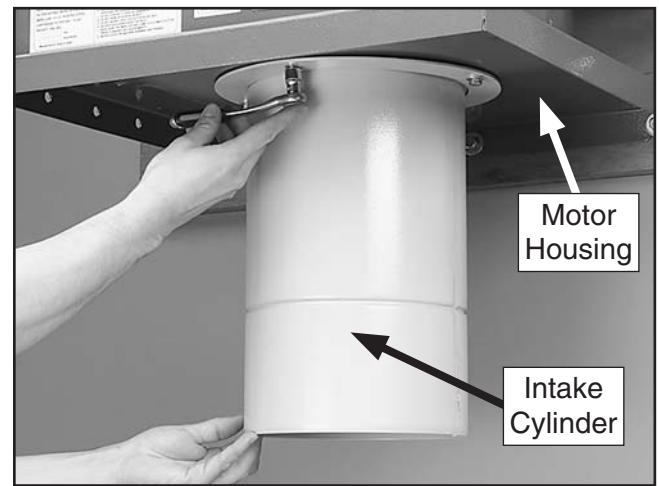

Figure 12. Attaching intake cylinder to the bottom of motor housing.
3. Attach the intake cylinder to the bottom of the housing, as shown in **Figure 12**, using (4) $\frac{5}{16}$ "-18 x $\frac{3}{4}$ " hex bolts and (4) $\frac{5}{16}$ " flat washers.